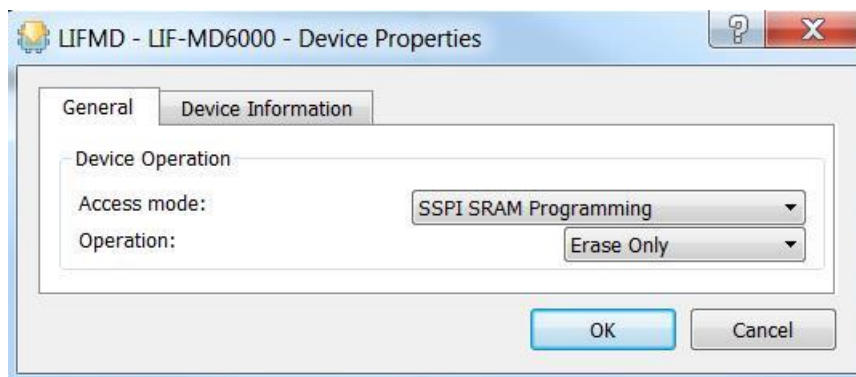

Figure 4.6. Device Operation
5. In the **Device Properties** dialog box, select **SSPI SRAM Programming** in **Access mode** and **Erase Only** in **Operation** as shown in Figure 4.6.